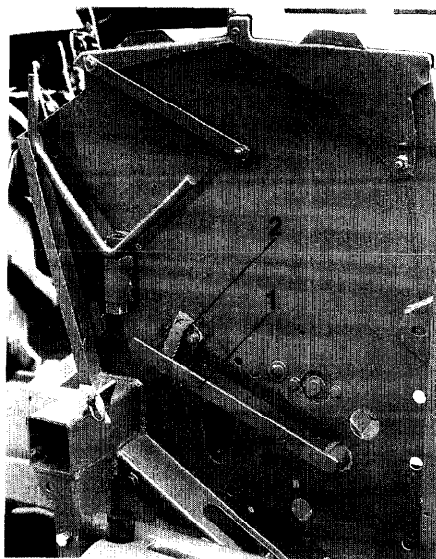

Fig. 129
- 1) Bring bottom flap lever (Fig. 129/1) at the setting plate (Fig. 129/2) into position "1".